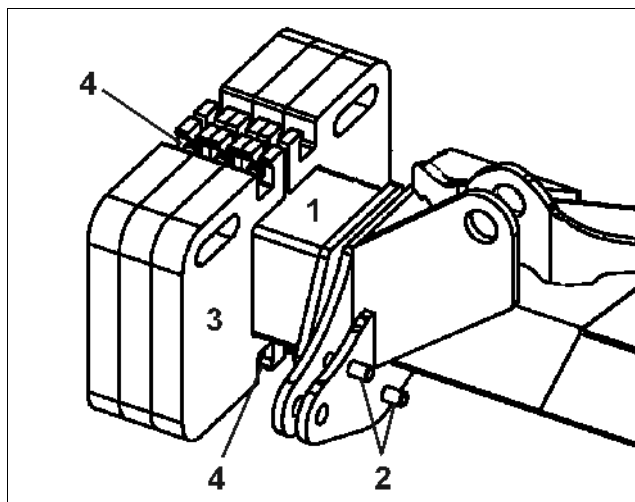

Fig. 9
- Use 4 bolts (Fig. 9/1) to bolt the carrying tube (Fig. 9/2) on to the end of the machine wing.
- Bolt each two additional weights (Fig. 9/3) on to the carrying tube (Fig. 9/4) and secure.